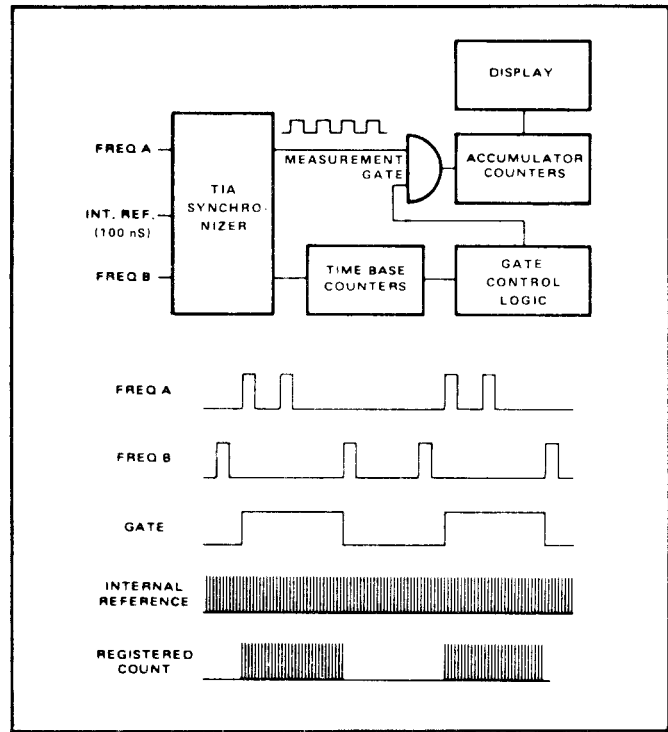

Figure 1.9 - Time Interval Average
1.3.9.1 Similar to the Time Interval mode of operation, the Time Interval Average mode measures the count accumulated during a multiple of intervals (figure 1.9). It then averages the count by shifting the decimal point and displaying the result. This mode of operation makes it possible to achieve greater resolution and accuracy when measuring time intervals. The A trigger point can follow the B trigger point as close as 200 nano-seconds.